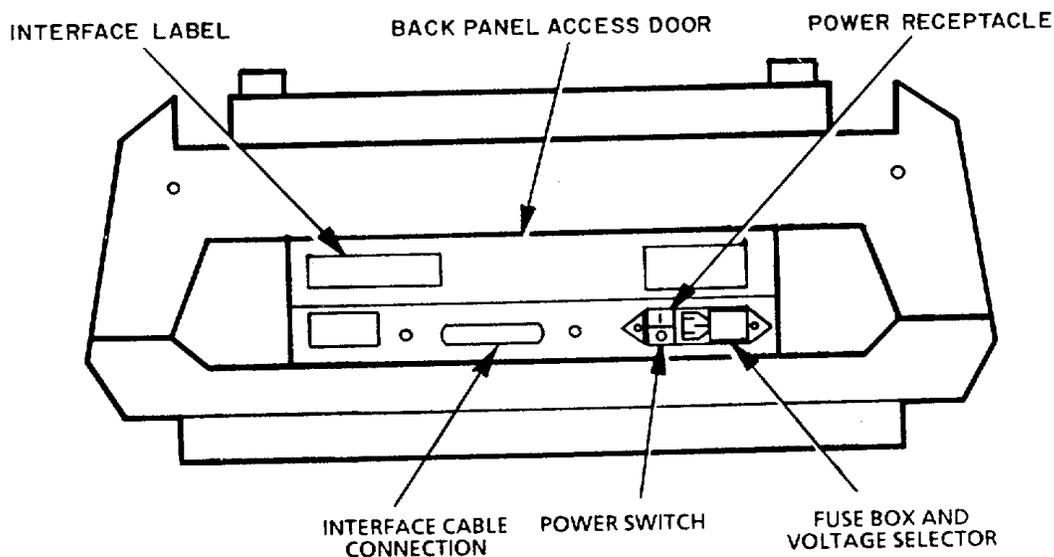

Figure 2-1. Back Panel Controls and Indicators
a. *Back panel.* Lift back panel access door. The only back panel control is the ON/OFF switch, which is used to apply power to the printer or turn the power off. See figure 2-1.